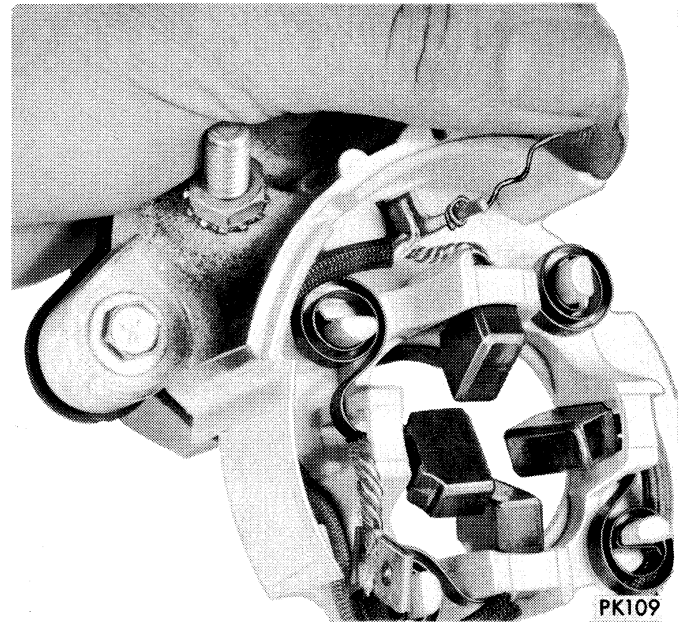

Fig. 12—Unwinding Solenoid Lead Wire
(9) Unwind solenoid lead wire from brush terminal, (Fig. 12).